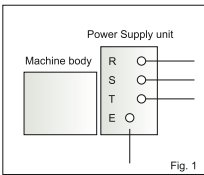
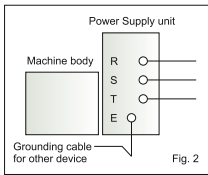

Fig. 1
Fig. 2
4. Ground connection: The CNC Wire Cut EDM must always be grounded to prevent external noise and prevent radio disturbance and earth leakage.Class C grounding (grounding resistance 10 Ω or less) as set forth in the Electric Facility Standards is recommended for the DM. (Fig. 1).Common grounding can be used if noise from other device will not enter through the common grounding ; The grounding cable must be connected independently to the grounding location and use 4mm² grounding wire (Fig. 2)